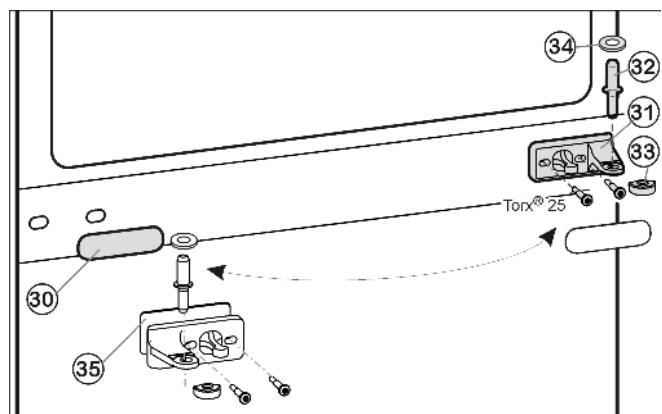
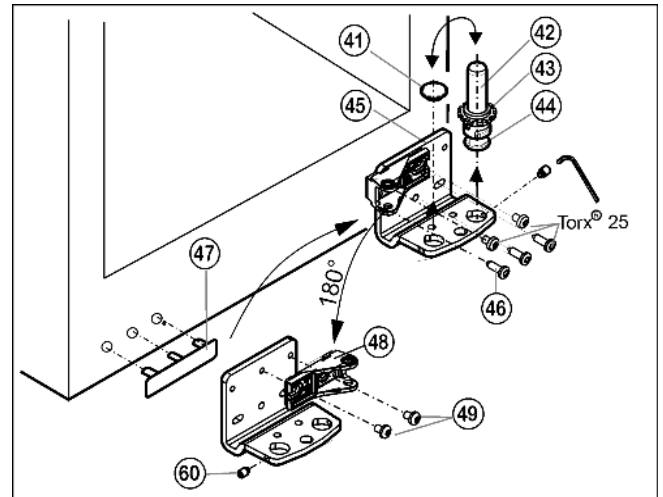

Fig. 11
Fig. 13
- ▶ Draw the middle bearing pin *Fig. 11 (32)* together with the washer *Fig. 11 (34)* out of the turn hinge and lower door.
- ▶ Remove the plastic cap *Fig. 11 (33)*.
- ▶ Unscrew the middle turn hinge (2x Torx® 25). *Fig. 11 (31)*
- ▶ Carefully detach the cover panel *Fig. 11 (30)*.
- ▶ Turn the middle turn hinge *Fig. 11 (31)* with the washer *Fig. 11 (35)* through 180° and screw it **firmly** into place on the new hinge side (**with 4 Nm**).
- ▶ Turn the cover panel *Fig. 11 (30)* through 180° and snap it into place again on the new handle side.
- Using the accompanying Allen key, unscrew the threaded pin Fig. 13 (60) by about 1 turn.
- Turn and lift out the bearing pin Fig. 13 (42) together with the washer Fig. 13 (43) and adjustable-height foot Fig. 13 (44).
- Lift out the stopper Fig. 13 (41).
- Unscrew Fig. 13 (46) the turn hinge Fig. 13 (45).
- Fully unscrew the threaded pin Fig. 13 (60) and screw it in on the opposite side, at the turn hinge, until it is flush outside with the turn hinge.
- Unscrew the bearing element Fig. 13 (48), turn it through 180° and screw Fig. 13 (49) it firmly back into place.
- Re-insert the stopper Fig. 13 (41) into the other hole.
- Carefully lift off the cover on the handle side Fig. 13 (47) and transfer it to the opposite side.
- Screw the turn hinge Fig. 13 (45) firmly into place on the new hinge side, possibly using a cordless screwdriver (with 4 Nm).
- Screw the bearing pin Fig. 13 (42) into place again, complete with washer and adjustable-height foot.
- Tighten the threaded pin Fig. 13 (60).
- Place the door from above onto the lower bearing pin Fig. 13 (42).
- ▶ Place the plastic cap *Fig. 11 (33)* back onto the middle turn hinge *Fig. 11 (31)*.
- ▶ On the new hinge side, pass the middle bearing pin *Fig. 11 (32)* through the middle turn hinge *Fig. 11 (31)* into the lower door.
- ▶ Attach the washer *Fig. 11 (34)* to the middle bearing pin *Fig. 11 (32)*.
- ▶ Place the upper door on the middle bearing pin *Fig. 11 (32)*.
- ▶ If necessary, align the doors to the appliance housing by way of the two oblong holes in the bottom turn hinge *Fig. 13 (45)* and middle turn hinge *Fig. 11 (31)*. To do so, unscrew the middle screw in the bottom turn hinge *Fig. 13 (45)*.